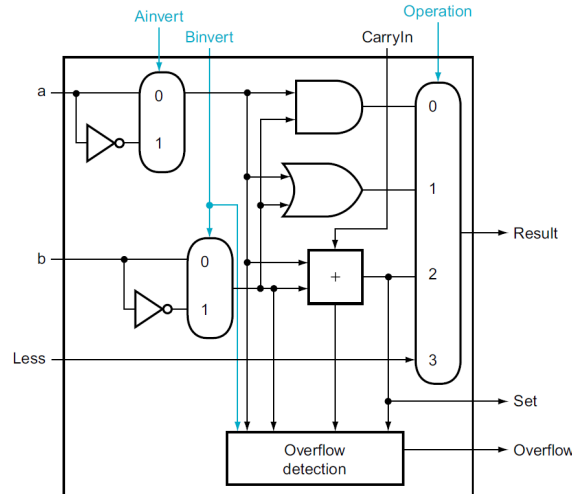
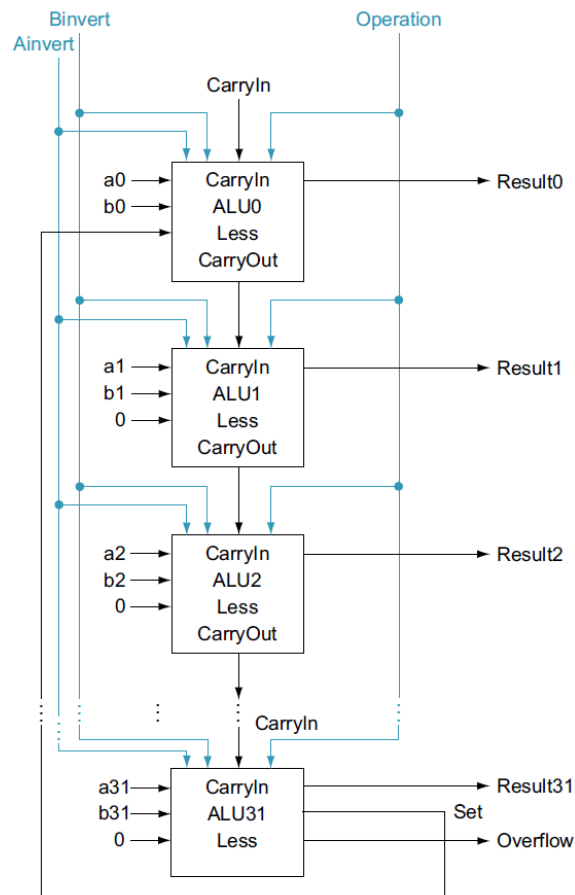

Figure 10: 1-bit ALU with Set output.
Figure 11: 32-bit ALU improved.
Thus, we need a new 1-bit ALU for the most significant bit that has an extra output bit: the adder output. Figure 10 shows the design, with this new adder output line called Set. As long as we need a special ALU for the most significant bit, we added the overflow detection logic since it is also associated with that bit. Figure 11 shows the 32-bit ALU.
2. Build the one-bit ALU sub-circuit, named "OneBitALU", using the adder sub-circuit (Figure 10).